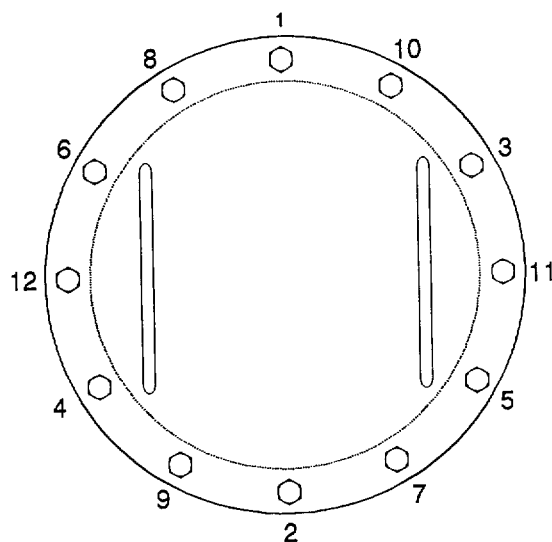

Figure 4-2. Filter Vessel Cover Torque Pattern
- (3) Clean filter vessel cover (8) and position on filter vessel (3).
- (4) Loosely install bolts (12), flat washers (13), flat washers (11), lock washers (10) and nuts (9) that secure the filter vessel cover (8) to the filter vessel.
- (5) Torque filter vessel cover bolts (12) in a crossing pattern (Figure 4-2). Initially torque to 20 ft. lbs., then torque again to 25 ft. lbs. and a final torque to 30 ft. lbs.
- (6) Close manual vent valve (4).
- (7) Place ground cable (1) in storage location.